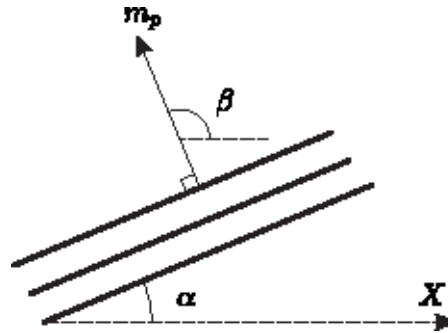

Figure 3.6: Direction of the moment capacity  $M_p$
- **Angle ( $^\circ$ )**, The angle (anticlockwise) described between the global x axis and the direction in which  $M_p$  is acting. Note that this is NOT the angle of the reinforcing bars ( $\alpha$  in Figure 3.6), rather it is the angle NORMAL to them ( $\beta$  in Figure 3.6).